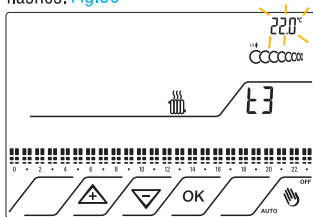

Fig.30
7.10 The display shows the third level value T3. The relative set temperature 22°C flashes. Fig.30